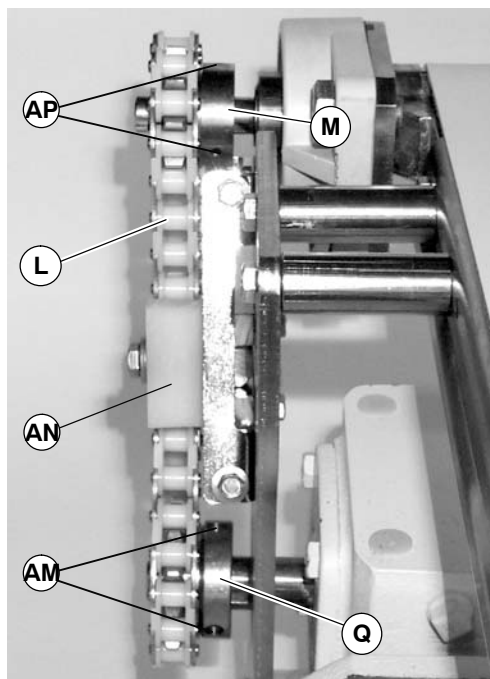

Figure 15
IMPORTANT: Make sure center of timing chain (L of Figure 15) aligns with center of chain tensioner (AN). If necessary, loosen two set screws (AM) to move drive sprocket (Q) in or out. Tighten set screws. Also, if necessary, loosen two set screws (AP) to move driven sprocket (M) in or out. Tighten set screws.